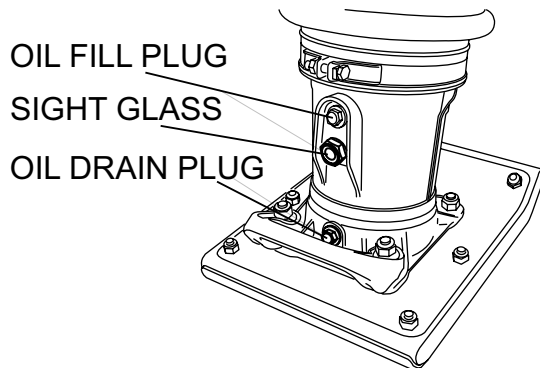

Figure 6. Foot Housing Sight Glass
1. Check the oil level through the oil level sight glass (Figure 6) at the rear of the tamper foot.
2. If oil is not visible, add 10W-30 SE, SF or higher grade motor oil into the oil fill plug opening (Figure 6). The bath contains approximately 0.69 qt. (0.65 liter).